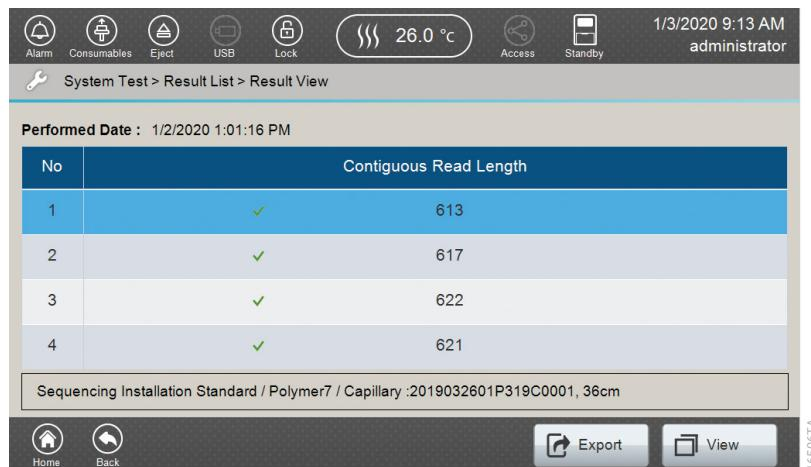

Figure 217. Sequencing System Test 'Result View' screen with selected sample.
6. Select the line in the Result List corresponding to the system test sample you wish to review. This will activate **Export** and **View** in the footer (Figure 217).